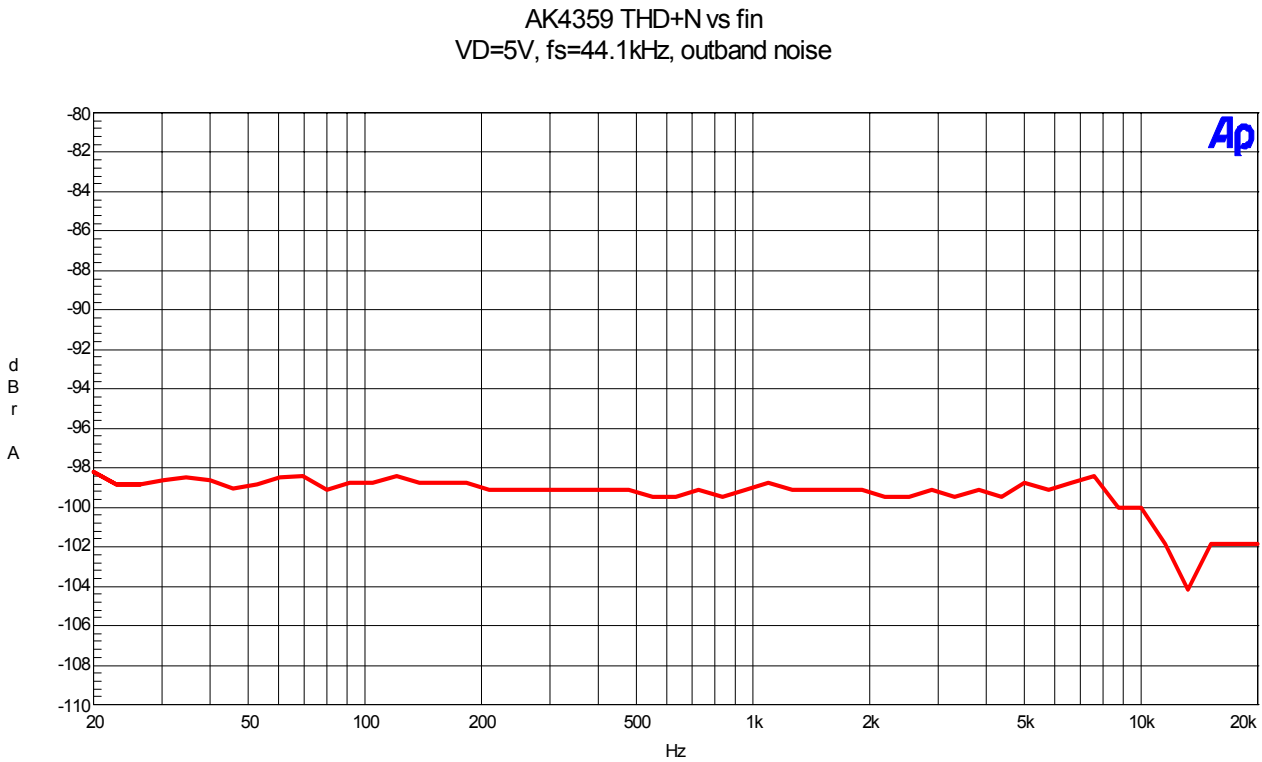

Figure 9 . THD+N vs fin (Input level=0dBFS)
- Figure 9. THD+N vs fin (Input level=0dBFS)